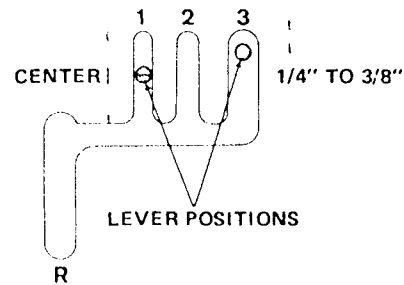

Figure 11
1. Move wheel drive control into "third" gear and check position of lever (Fig. 11). Bottom of shift lever must be 1/4 — 3/8 inch from bottom of slot (Fig. 11). If lever is not in correct position, proceed to step 2 and adjust the U-shaped pivot bracket that holds wheel drive control. If lever is in correct position, proceed to step 4.